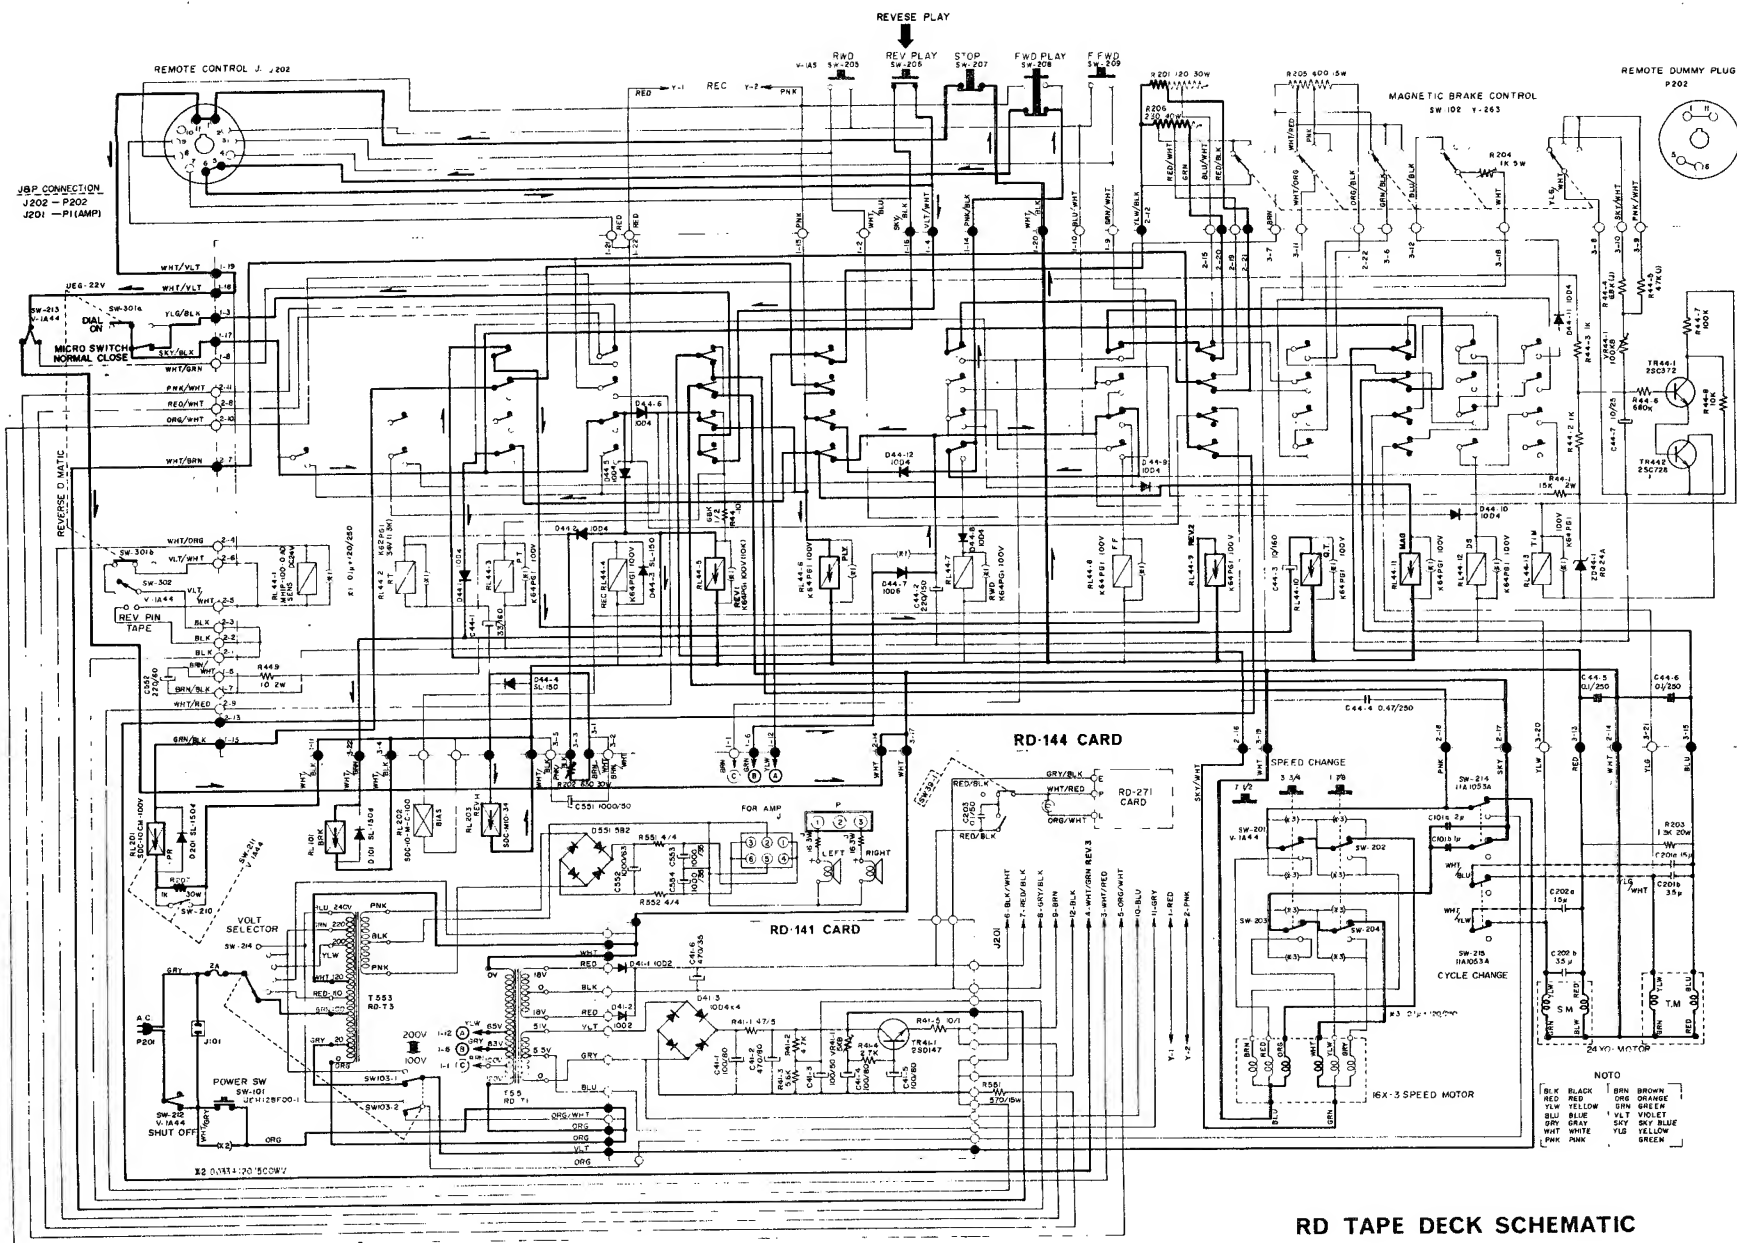

Fig. 8
Relay operation can be clearly understood by referring to the System Control Board Block Diagram (Figure 8.). As soon as REVERSE is actuated ("ON") at point (A), current begins to flow in the Reverse Circuit. Since it takes about 15 milliseconds before the contact is operative, C1 (220 μF) is charged within approximately 5 milliseconds through REV1-2 (normally closed contact).